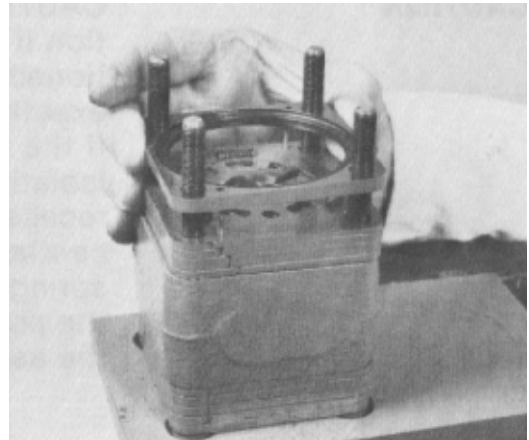

Figure 116
35. Apply clean grease to a seal ring and put it in the valve ring recess that will face down when installed. Install the valve ring over the bolts and alignment pins with the seal ring facing the isolation manifold (Fig. 116).